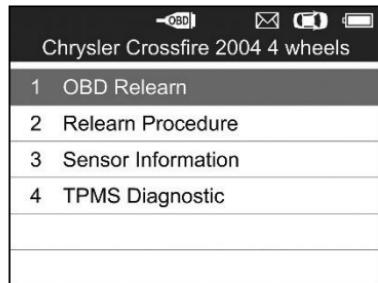

Figure 4.19
- 5) The tool will display a function screen as below. Use the **UP/DOWN** scroll button to select the desired menu and press the **Y** button to continue (Figure 4.19).
- Select **OBD II Relearn** to write IDs to vehicle directly without performing further procedures (Figure 4.19).